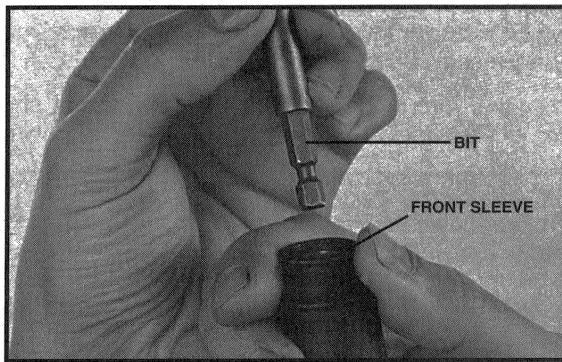

Fig. 2
2. Grasp front sleeve (Fig. 2) and push out as far as it will go.
3. While holding front sleeve out as far as it will go, insert selected bit (Fig. 2).